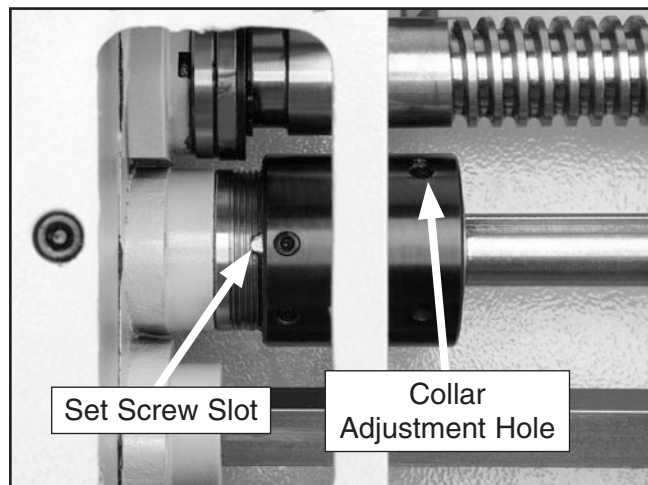

Figure 120. Feed clutch set screw alignment.
4. Insert the hex wrench into the collar adjustment holes (**Figure 120**), and use the wrench as a spanner to rotate the clutch collar.
5. Line up the set screw hole in the clutch collar with the closest slot (**Figure 120**) that is cut into the feedrod.